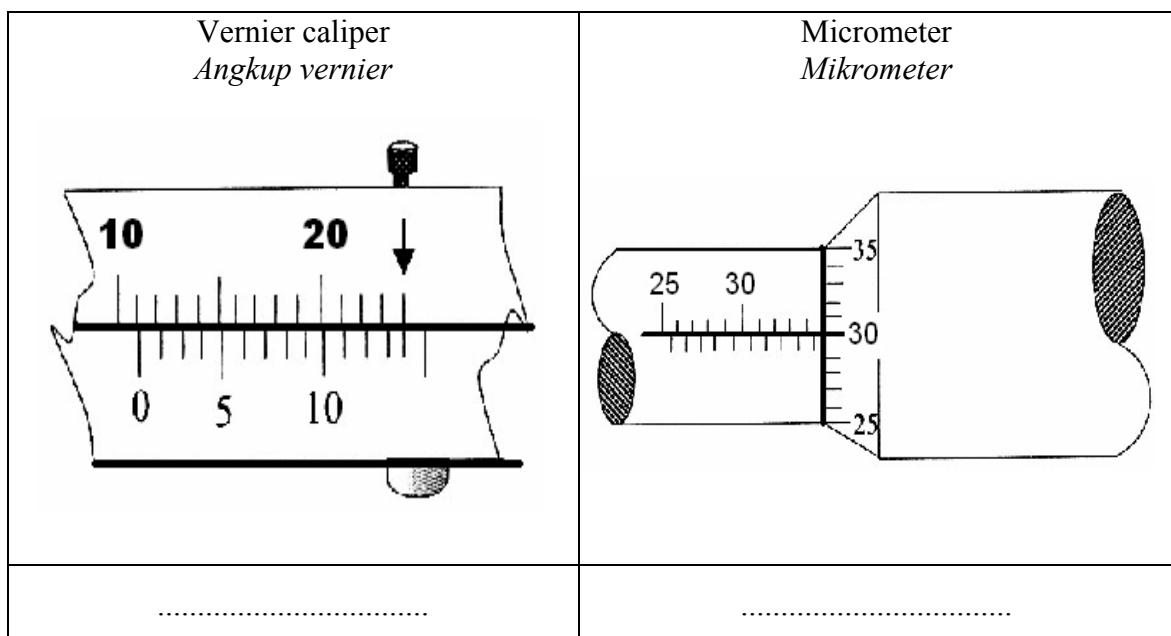

Figure 1
4. State the readings of the vernier caliper and the micrometer in Figure 1.